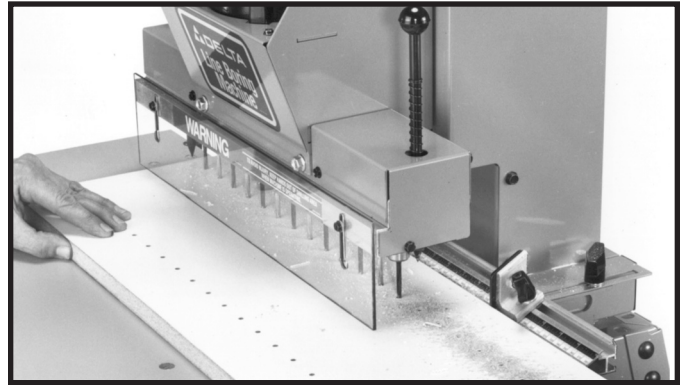

Fig. 65
3. Then bore the additional thirteen holes in the workpiece, as shown in Fig. 65. All holes are 32mm apart from each other.